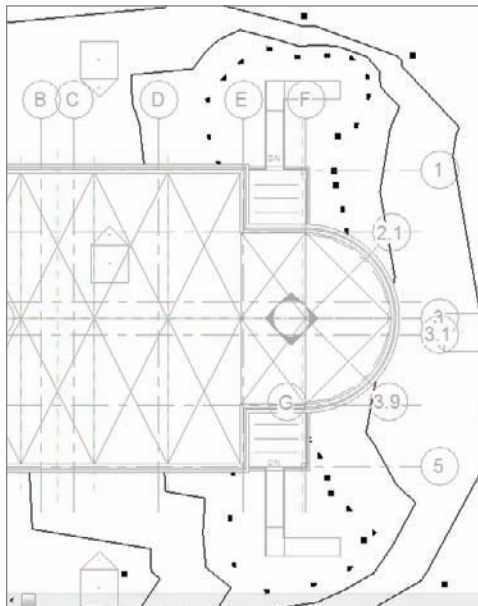

FIGURE 18.6 Adding the $-2'-6''$ points
2. Zoom in on the east entry area where the ramps are located, as shown in Figure 18.6.
7. Pick a series of points, as shown in Figure 18.6.